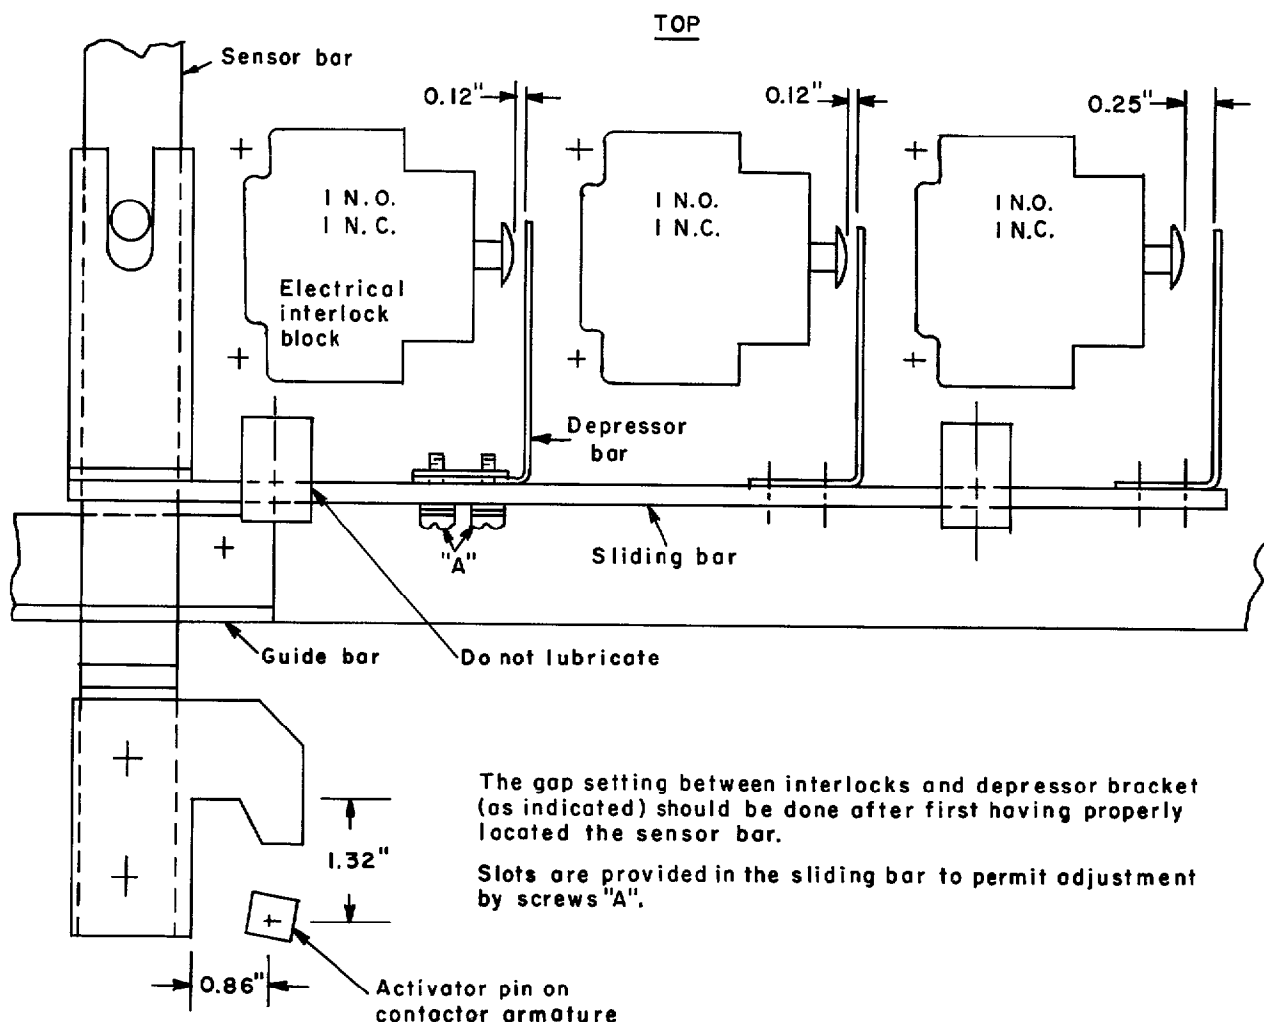

Fig. 94. Electrical interlocks.
1. The engagement of the activator pin on the contactor armature support with the sensor bar should be such that an overlap of 0.25- to 0.42-inch exists. (See Fig. 94.)